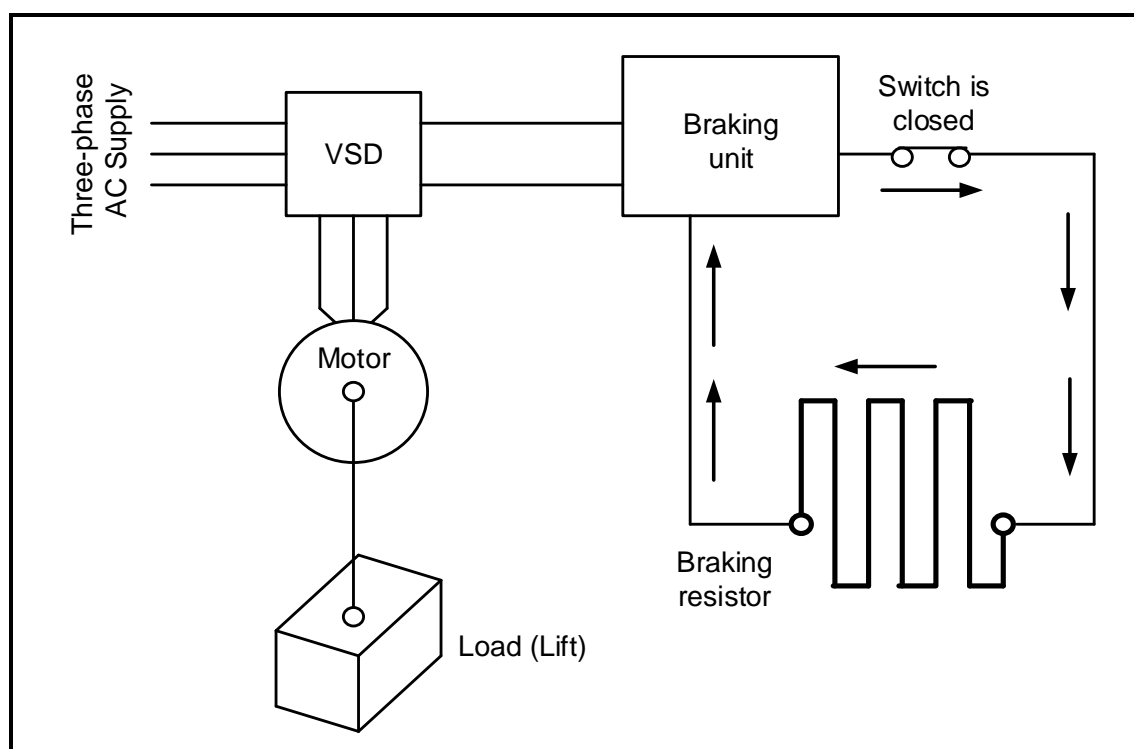

FIGURE 6.14
6.14 Refer to FIGURE 6.14 below and answer the questions that follow.
6.14.1 Identify FIGURE 6.14. (1)